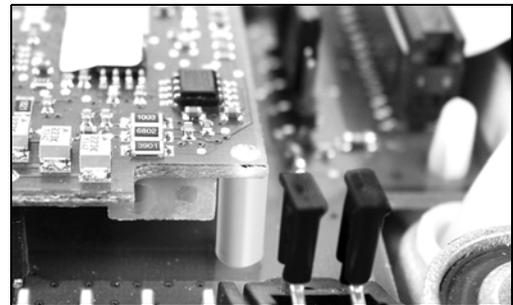

fig. 23: Jumper for connection of IsFET sensor TopHit H CPS 471
4. Pin up the jumper included as shown in fig. 23.